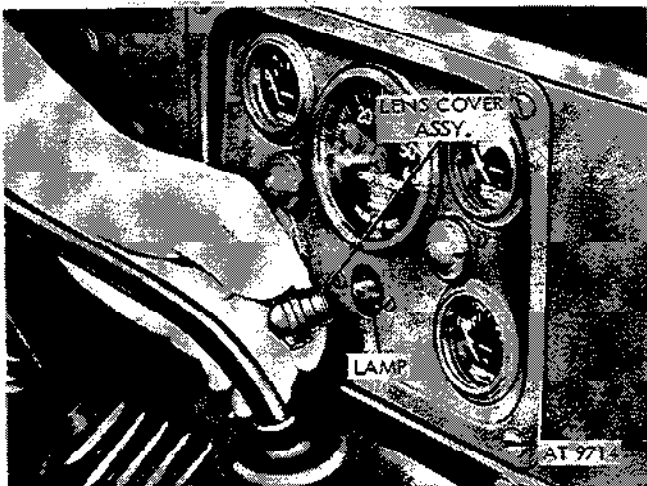

Figure 2-269. Unscrew lens. Push lamp in and turn to left to remove.
a. Removal. The location of instrument cluster lamps and lens is shown in figure 2-268. Remove lamps and lenses as shown in figure 2-269.
b. Installation. Install instrument cluster lamps and lens as shown in figures 2-269 and 2-268.